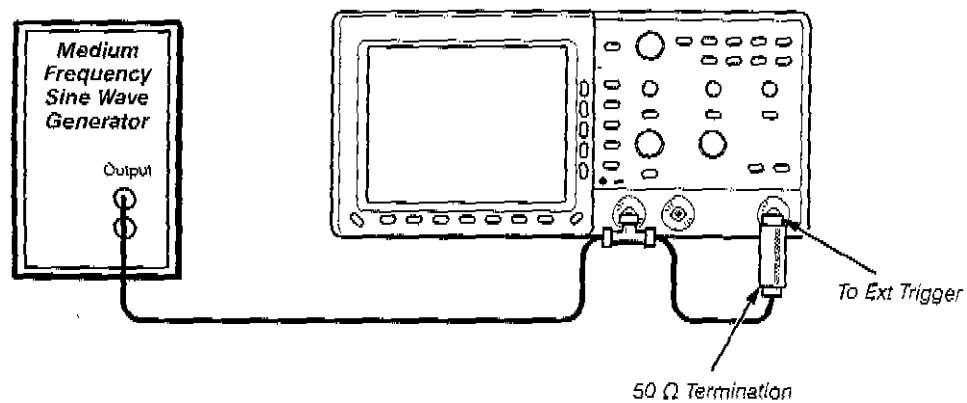

Figure 6-8: Hookup for Trigger Sensitivity Check
7. Connect the BNC T connector to **CH 1**; connect the cable to the **EXT TRIG** input through a 50 Ω termination as shown in Figure 6-8.